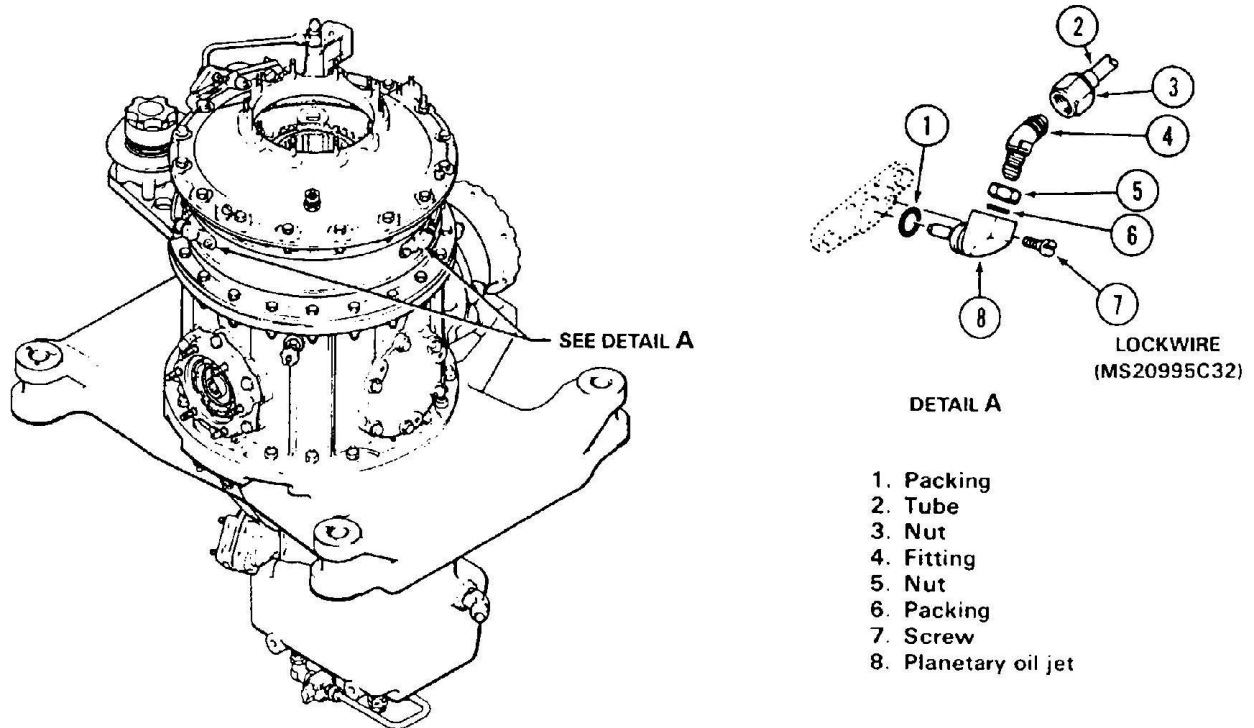

Figure 63-26. Planetary Oil Jet
Two oil jets (8, Figure 63-26) are installed in the planetary gear case of transmission to provide positive lubrication to planetary gearing.
*The jet on forward side of transmission is shown in Figure 63-26. Maintenance procedures for jet on left side of transmission are similar.*
63.5.10.1.1 Disconnect tube (2).
63.5.10.5.1 Coat new packing (1, Figure 63-26) with transmission oil (Chapter 12). Install packing on jet (8).